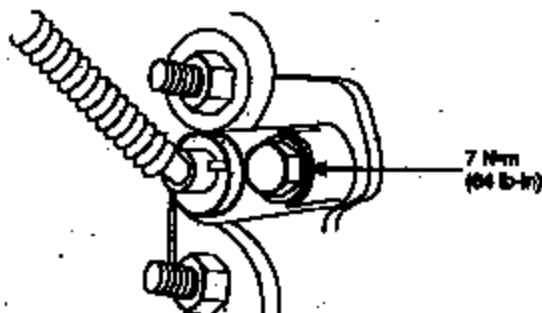

FIGURE 25
2. Install both rear brake anti-lock sensor (refer to Figure 25).